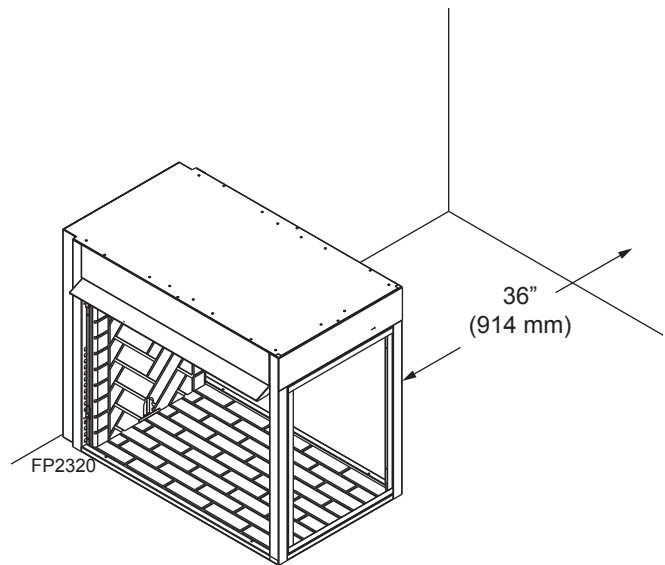

Figure 4 - Parallel Wall Clearance (LSTF36 and LPF36 Models Only)
4. **Parallel Wall Clearance** — The clearance from the opening of the firebox to any wall that is parallel to the opening should not be less than 36" (LSTF36 and LPF36 models only). Refer to *Figure 4*.